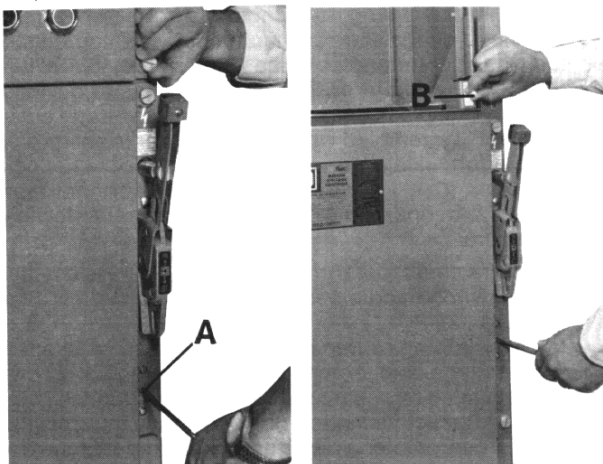

FIGURE 12
1. Insert a small tool through hole (A) below the isolation switch handle and depress defeat switch (See Figure 12).
2. While holding switch depressed, unlatch and open low voltage compartment door until interlock (B) can be operated by pulling plunger to fully extended position. After activating interlock, tool may be removed.